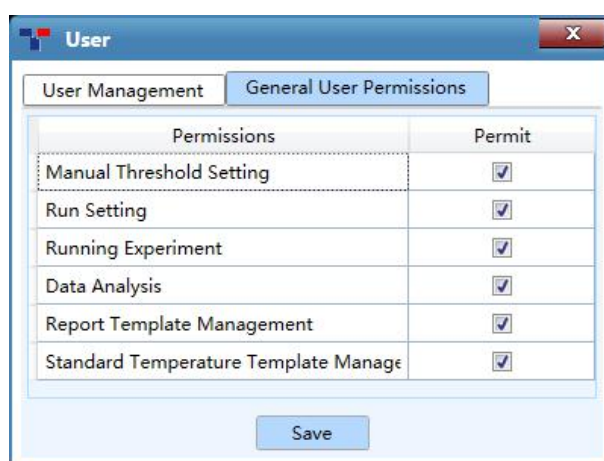

Figure D-3.7b User interface - General User Permissions tab
- **General User Permissions** tab: as shown in figure D-3.7b.